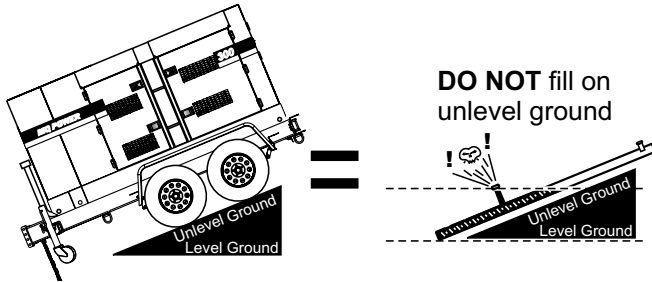

Figure 30. Only Fill on Level Ground
- Level Tanks** — Make sure fuel cells are level with the ground. Failure to do so will cause fuel to spill from the tank before reaching full capacity (Figure 30).